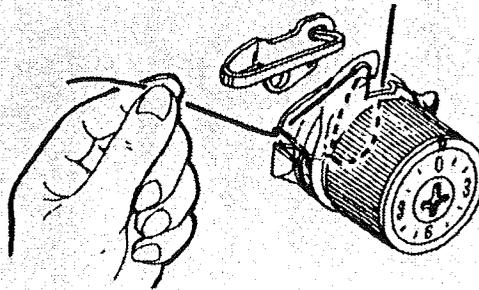

Fig 3
3. After the thread has slipped into the hook, allow the spring wire to return to position by releasing the thread spool. Fig. 3.
- b. If the bottom thread lays on the fabric - tighten upper thread tension, and repeat test. See Fig. 3, Page 10.